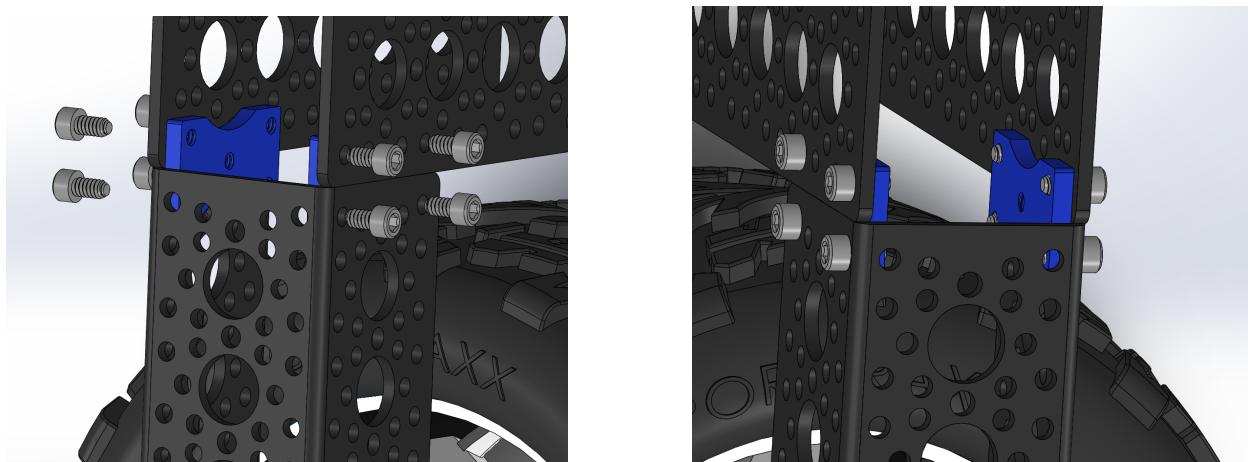

Figure 8: Corner Wheel Step 4
**4. Attaching the 4.5 inch Channel:** Attach the 4.5 inch channel **S4** to the top of the 3 inch channel from the last step using two channel connectors **S6** and screws **B1** as shown in Figure 8.